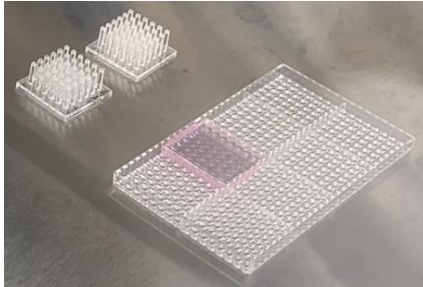

Figure 4. Dispensing 2.5 - 3 mL of cold Matrigel per block in the LoadingPlate for rapid loading of Matrigel on the pillar plate.
14. Place the LoadingPlate on a flat surface, dispense 2.5 - 3 mL of the cold Matrigel solution per small block without big bubbles, and spread it properly with the pipette tip (**Fig. 4**).